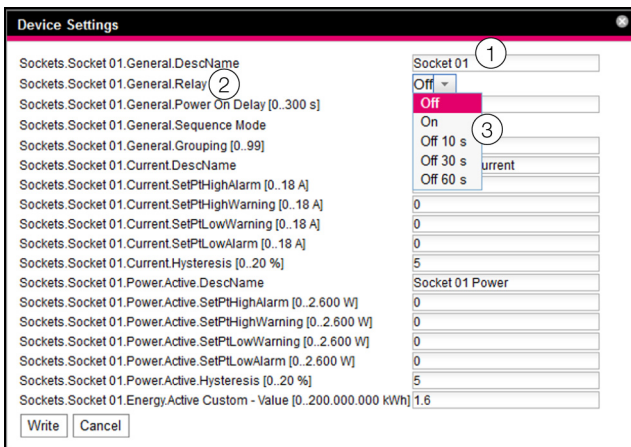

Fig. 40: Performing switch commands
DescName	Individual description that was assigned to the output or socket (fig. 40, item 1).
Device	The device index (ID number) that is prefixed to the associated Real Device in the navigation area of the PDU website (fig. 40, item 2).
Command	The command to be performed. The following commands are supported: "Off", "On", "Off 10 s", "Off 30 s", "Off 60 s" (fig. 40, item 3).